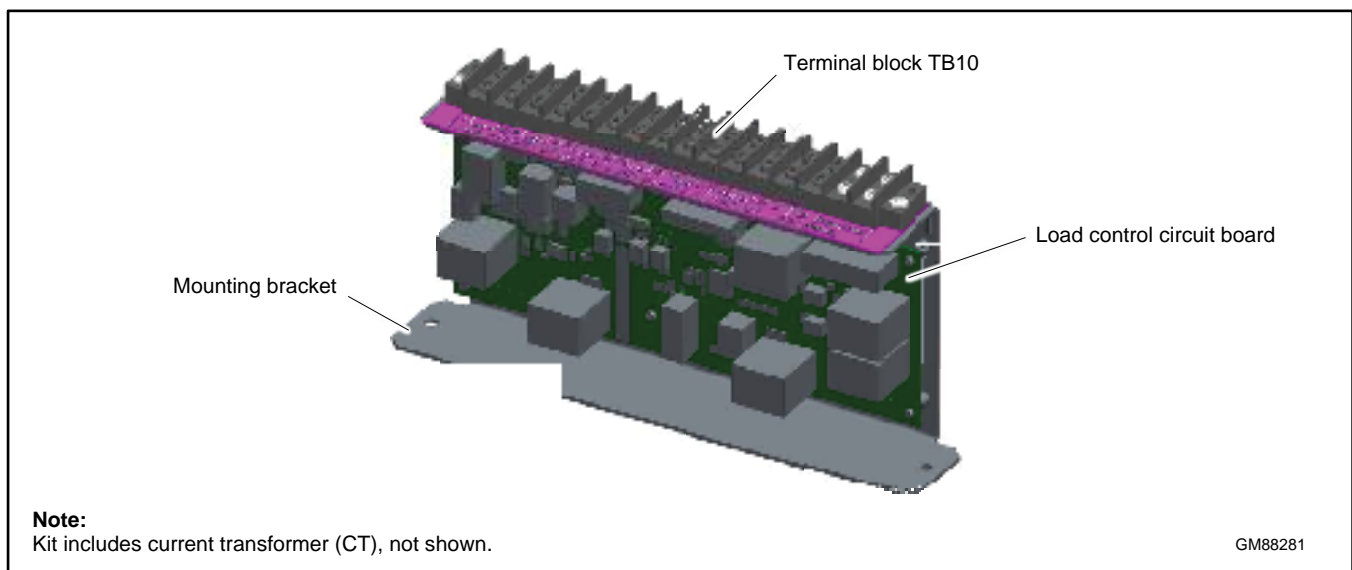

Figure 44 Load Shed Assembly GM88281-1 (mounts inside the transfer switch enclosure)
1. The optional Load Shed Kit mounts inside a Model RDT or RXT transfer switch. Figure 44 shows the load shed assembly.